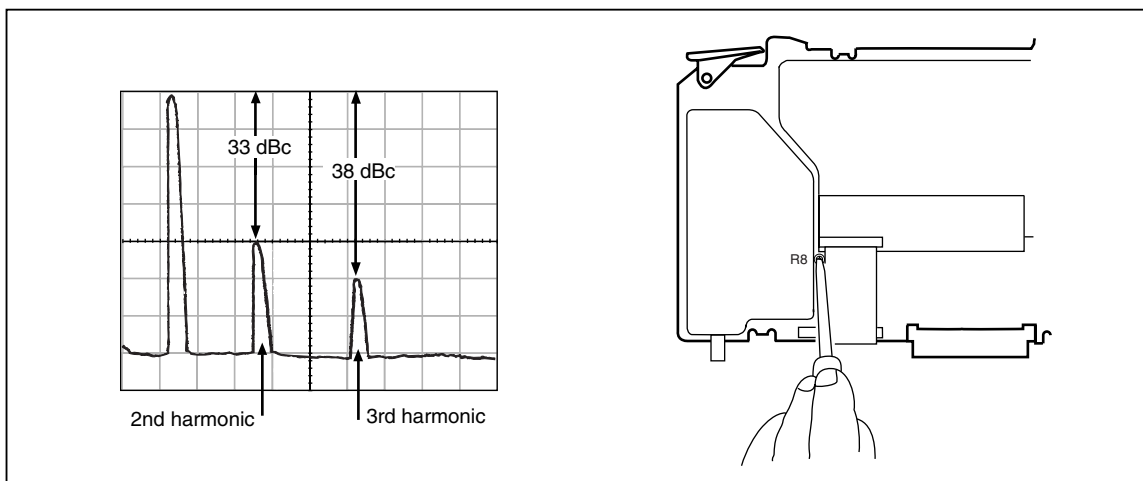

Figure 3-11. Adjusting the Leveled Sine Wave Harmonics
2. Use your Spectrum Analyzer's Peak Search function to find the desired reference signal. The Analyzer should show the fundamental, and second and third harmonics. The harmonics need to be adjusted so that the second harmonic is at 33 dBc and third harmonic should typically be at 38 dBc as shown in Figure 3-11.
3. To adjust the harmonics, adjust R8, as shown in Figure 3-11 until the peaks of the second and third harmonic are at the correct dB level. You may find that you can place the second harmonic at 33 dBc but the third harmonic is not at 38 dBc. If this is the case, continue adjusting R8. The second harmonic will fluctuate, but there is a point at which both harmonics will be at the correct decibel level.